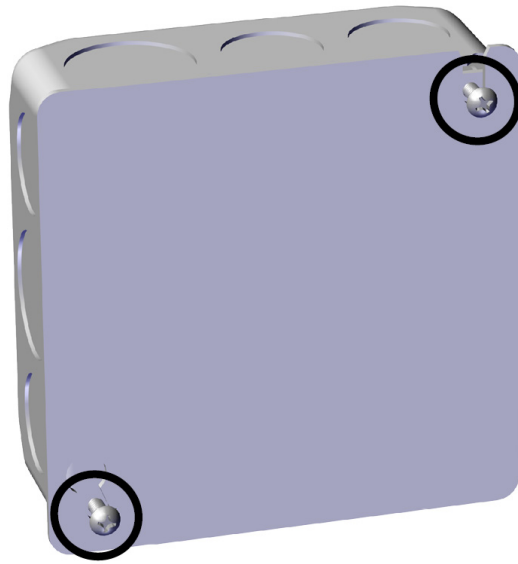

Figure 12. Loosen screws
3. Partially install screws (not included) holding the cover on the box as shown in Figure 12.